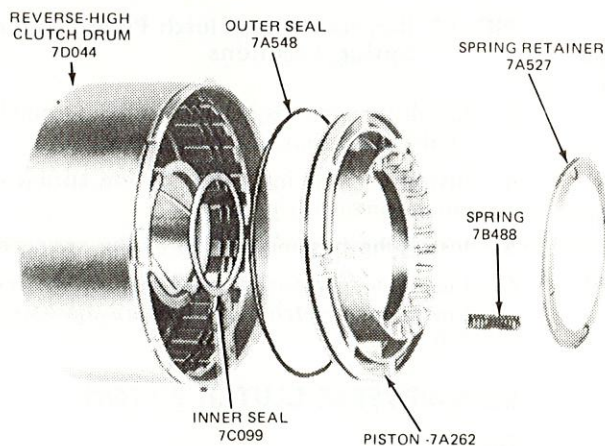

FIG. 37 Reverse-High Clutch Disassembled
2. Remove the pressure plate and the drive and driven (internal and external spline) clutch plates (Fig. 37).
6. Remove the piston outer seal from the piston and the inner seal from the clutch drum (Fig. 37).
alternately starting with a steel drive (internal) plate (Fig. 37). When new composition clutch plates are used, soak the plates in automatic transmission fluid, (Spec. ESP-M2C138 CJ), for 15 minutes before they are assembled.